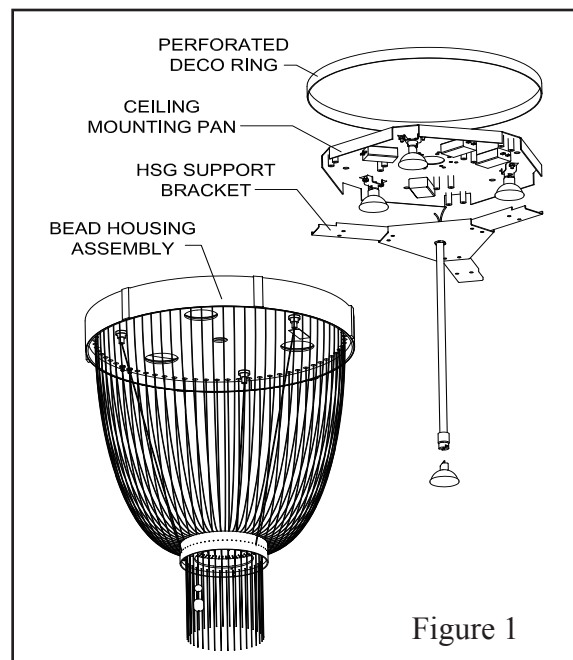

Figure 1
Step 2 Remove the triangular bracket from the ceiling mount pan, then install the downlamp stem to the triangular bracket. (See Figures 1 and 2)